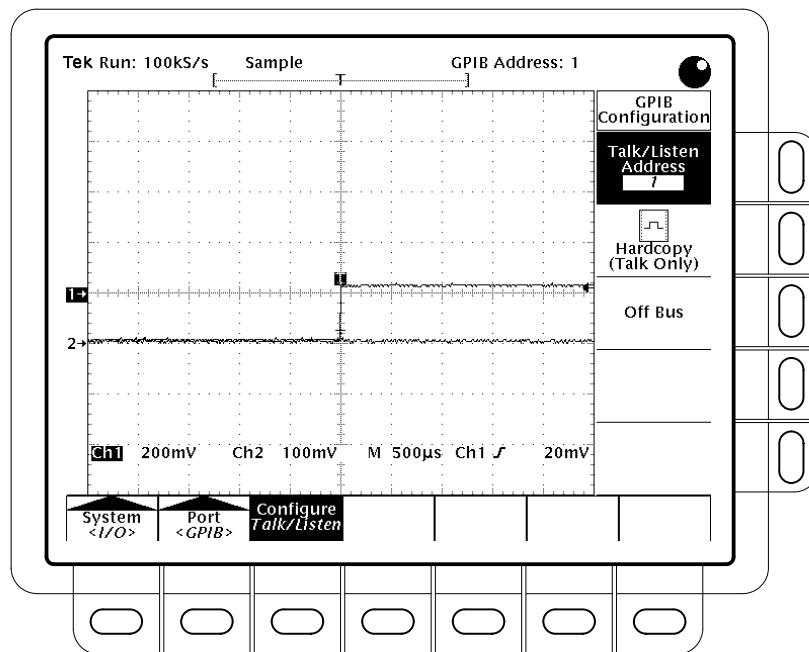

Figure 3–17: Utility Menu — System I/O
1. Press **SHIFT UTILITY** → **System** (main) → **I/O** (pop-up) → **Configure** (main) (see Figure 3–17).